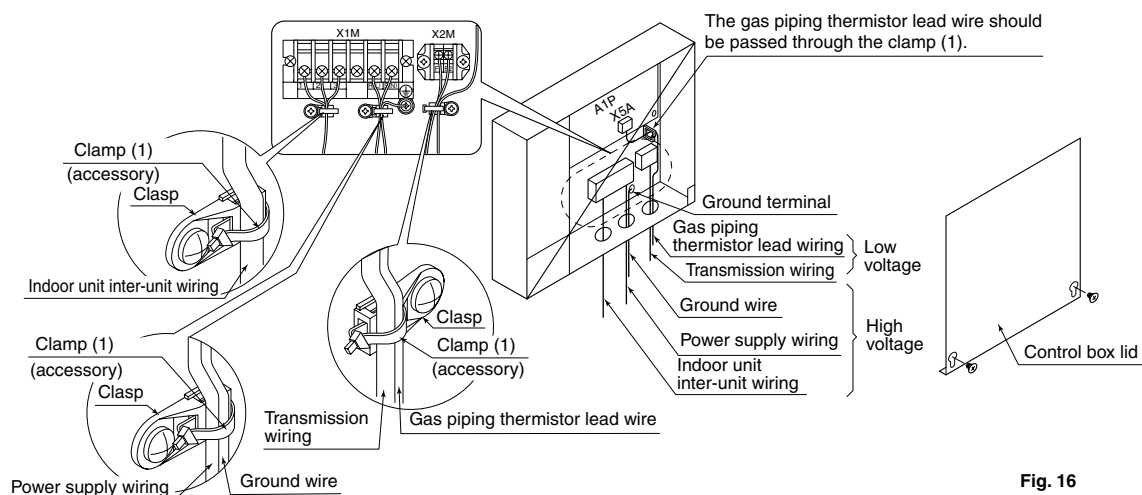

Fig. 16
- As shown in the Fig. 16, loosen the two screws in the control box lid, remove it, and do the wiring work.